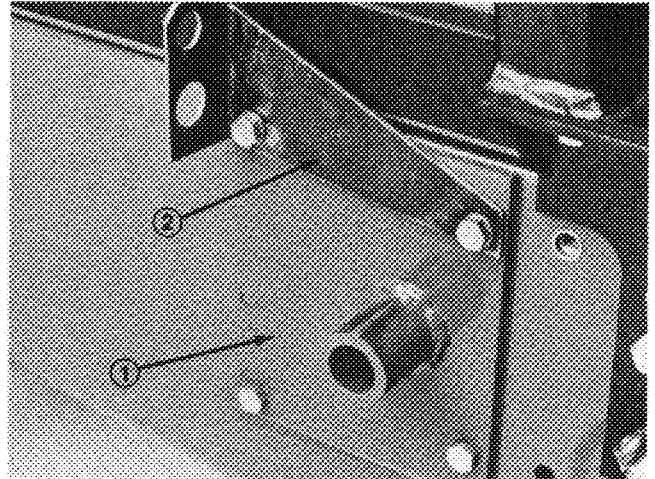

Figure 7
7. Secure top of right hopper mounting bracket and coupler bracket to right side of machine using (2) 3/8 - 16 x 1" lg. capscrews and 3/8 lock-washers. Secure bottom of bracket to frame with (2) 3/8 - 16 x 1" lg. capscrews and locknuts (Fig. 7).